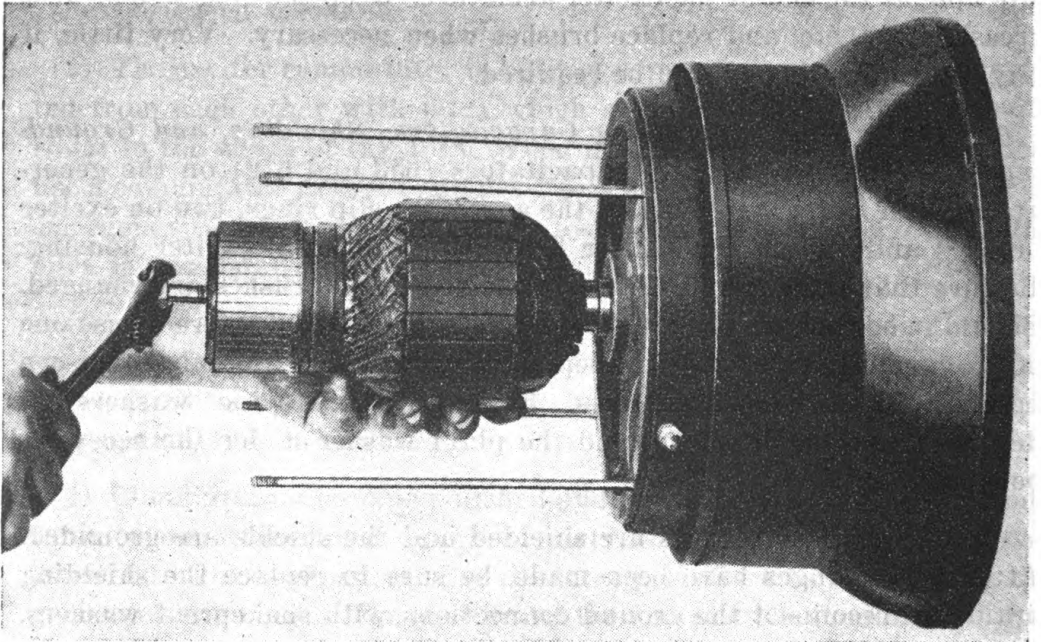

Figure 30.—Removing the Exciter Armature
*h. Exciter Armature (Removal and Replacement).*—The exciter armature core is machined to a light-pressure sliding fit on the generator-shaft extension. It is driven home and held tightly against the tapered driving fit on the shaft by bolt (643) in the commutator end of armature.
*(1) To remove armature:*
- (c) Remove stator frame (660) by taking off the nuts and washers and pulling the frame off the four holding bolts (665).
- (d) Straighten the locking clip on washer (644) and remove the armature holding bolt (643).
- (f) Turn the bolt with a wrench, as shown in Fig. 30 to loosen the armature (1 turn is sufficient) so that it can be pulled off by hand.